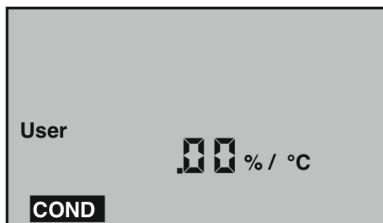

Figure 3
- b. With "User" selected, press $\left(\frac{\text{CAL}}{\text{MCLR}} \right)$. If the display does not show .00%/°C, hold $\left(\frac{\text{MR}}{\nabla} \right)$ long enough to bring the tempco to .00%/°C (see Figure 3).